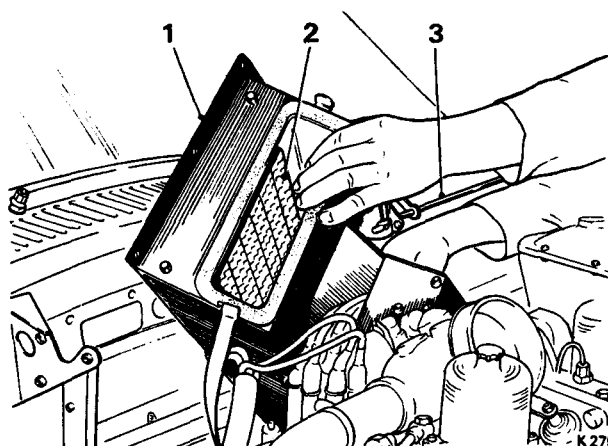

FIG. C3 REMOVING THE HEATER BOX AND MATRIX
18. Slacken the worm drive clips then disconnect the rubber pipes from the heater matrix. Withdraw the heater box and heater matrix from the bulkhead aperture (see Fig. C3).